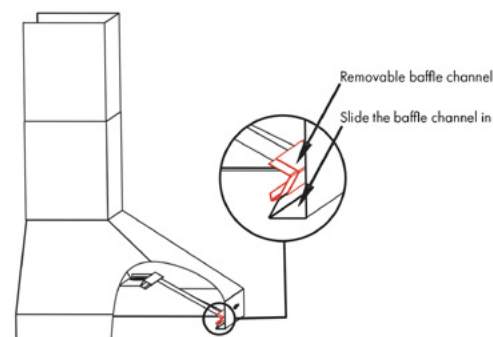

Figure 1
Professional series hoods are equipped with 2 removable dishwasher safe baffle channels (one for series 695 and 698 inserts) that the baffle filters rest in. To install the channels, place inside the hood, right under the front and back edges of the hood. The channel is kept in place by installation pieces on the sides and back of the baffle channel. *Figure 1*
**NOTE:** The baffle channels may already be in place. See *Figure 1* for positioning.